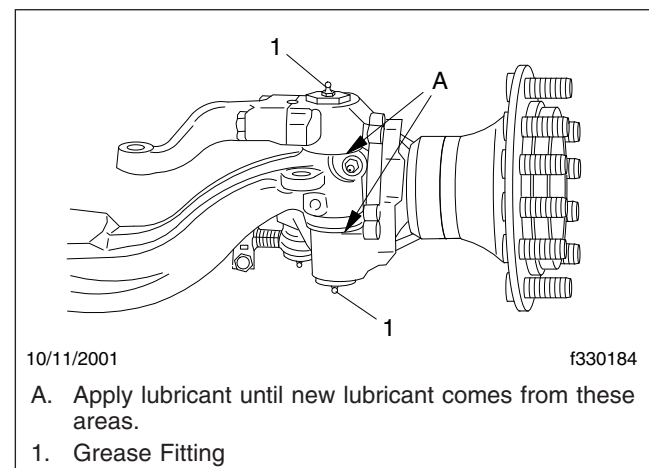

Fig. 4, Sealed, Easy Steer Plus Kingpin Lubrication
4. Using a multipurpose grease, NLGI grade 1 or 2, lubricate the kingpins through the grease fittings on the top and bottom of the knuckle. See Fig. 4.
- Force lubricant into the upper and lower kingpin grease fitting caps until new lubricant flows from between the upper axle beam end and the knuckle, and between the lower axle beam end and the knuckle. See **Fig. 4**.